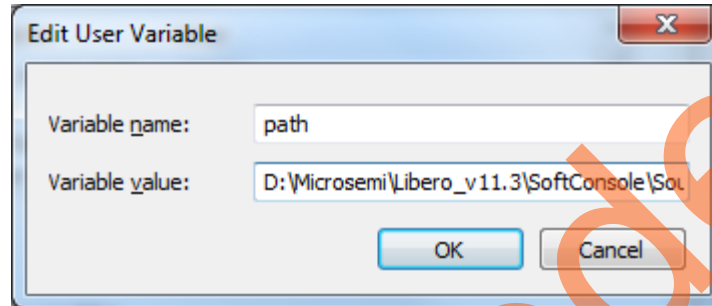

Figure 17. Adding SoftConsole Installation Path
2. Add the SoftConsole installation path, for example, C:\Microsemi\Libero_v11.3\SoftConsole\Sourcery-G++\bin, to the ‘Environment Variables’ as shown in Figure 17.